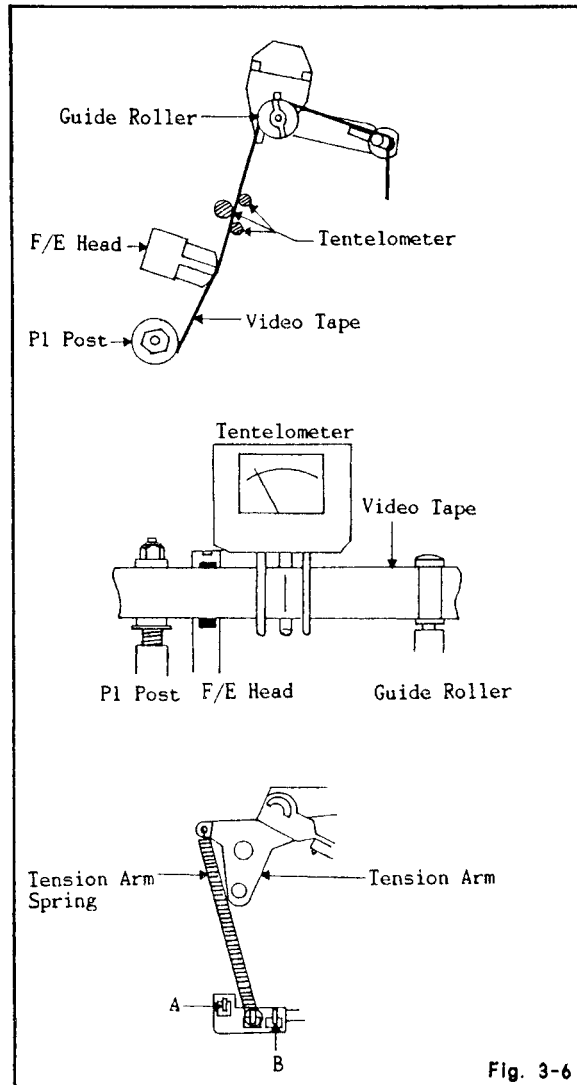

Fig. 3-6
3. Install the tentelometer as shown in Fig. 3-6. Confirm the value is within 25~35g/cm at this time.
7. Set the tension arm spring to "B" direction when the tentelometer indicates less than 25g/cm. (Refer to Fig. 3-6)
Set the tension arm spring to "A" direction when the tentelometer indicates more than 35g/cm. (Refer to Fig. 3-6)